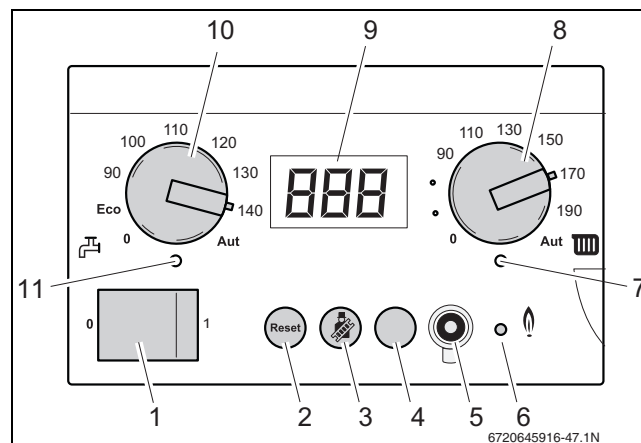

Fig. 66 BC10 basic controller
- Switch ON the appliance by pressing the main switch of the BC10 basic controller (→ fig. 66, [1]).
- Press and hold the "Chimney sweep" button (→ fig. 66, [3]) (approx. 2 seconds), until the dot in the right-hand bottom corner of the display (→ fig. 66, [9]) appears (→ table 12, page 29).
- After the LED "Burner operation" (→ fig. 66, [6]) has lit up wait for 1 minute until the boiler is burning at full load.
- Press the "Service" button (→ fig. 66, [4]) repeatedly until the temperature reading is shown in the display.
- Press the "Chimney sweep" button (→ fig. 66, [3]) to clear the reading (→ table 12, page 29).
- Switch OFF the heating system by pressing the main switch of the BC10 basic controller (→ fig. 66, [1]).
- Switch ON the heating system by pressing the main switch of the BC10 basic controller (→ fig. 66, [1]).
- After the LED "Burner operation" (→ fig. 66, [6]) has lit wait for one minute until the boiler is burning at part load.
- Press the "Chimney sweep" button (→ fig. 66, [3]) until the dot disappears from the display.
- Press and hold the "Chimney sweep" button (→ fig. 66, [3]) (approx. 2 seconds), until the dot in the right-hand bottom corner of the display appears (→ fig. 66, [9]) (→ table 12, page 29).
- After the LED "Burner operation" (→ fig. 66, [6]) has lit wait for 1 minute until the boiler is burning at full load.
- ▶ Press and hold the “Chimney sweep”  button (→ fig. 66, [3]) (approx. 2 seconds), until the dot in the right-hand bottom corner of the display (→ fig. 66, [9]) appears (→ table 12, page 29).
- ▶ After the LED “Burner operation” (→ fig. 66, [6]) has lit up wait for 1 minute until the boiler is burning at full load.
- ▶ Press the “Chimney sweep”  button (→ fig. 66, [3]) to clear the reading (→ table 12, page 29).
- ▶ Switch OFF the appliance by pressing the main switch of the BC10 basic controller (→ fig. 66, [1]).